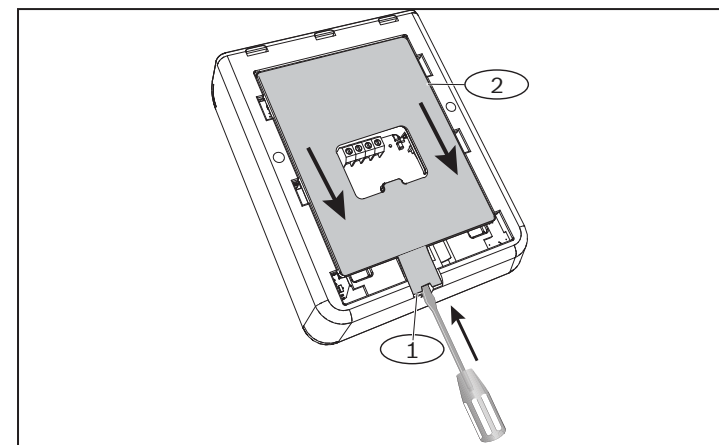

Figure 2.1: Removing mounting plate from keypad
1. Insert a slotted screwdriver under the retention clip to release the clip. Do not pry upwards. Refer to *Figure 2.1*.
2. With your other hand, slide the mounting plate towards the bottom of the keypad to unhook the mounting plate from the keypad. Refer to *Figure 2.1*.